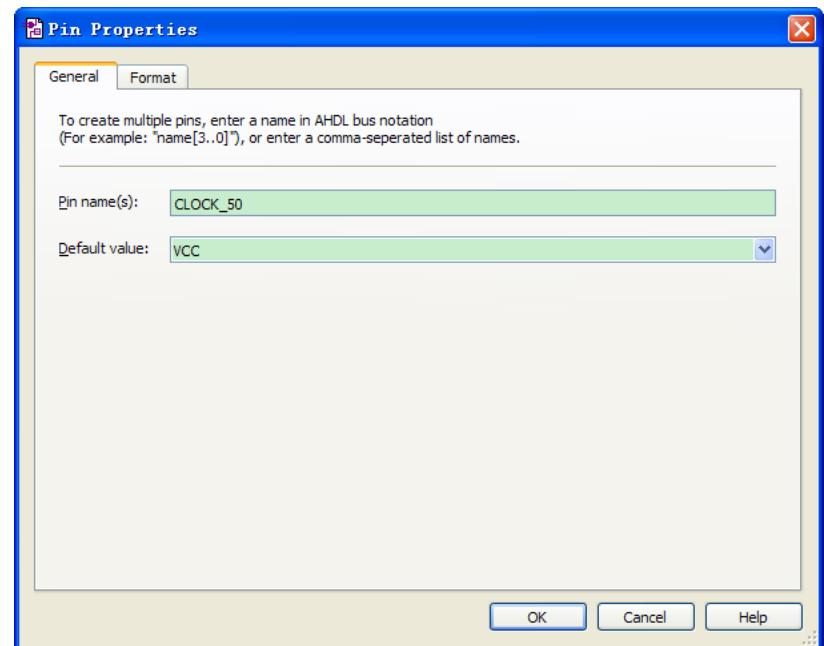

Figure 6-30 Change the input port name
6. Change the pin name by double-clicking pin_name and typing CLOCK_50 (see Figure 6-30). This name correlates to the oscillator clock that is connected to the FPGA.